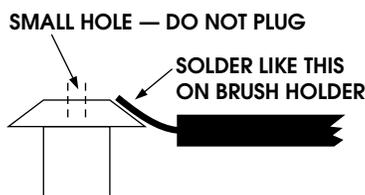

Fig. 1
■ Solder the ORANGE and GRAY wires to the brush holders as shown in Fig. 1.